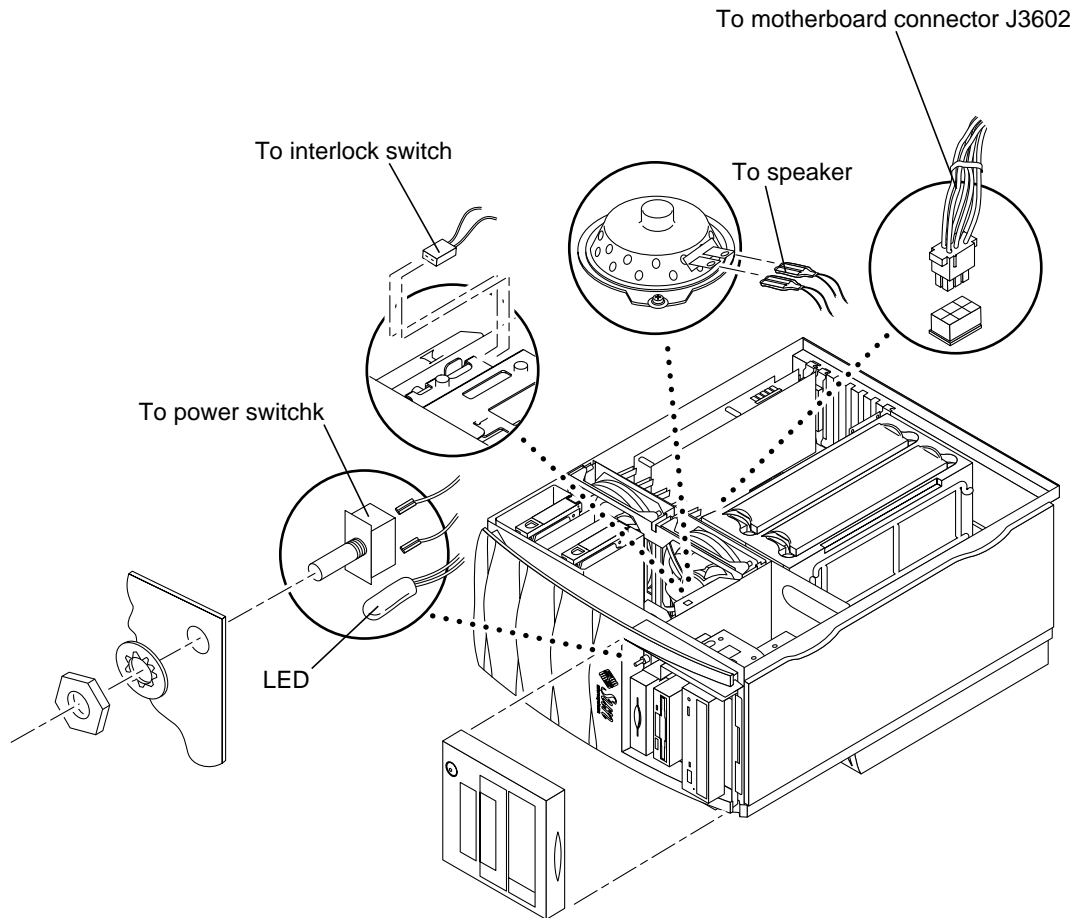

FIGURE 6-10 Removing and Replacing the Combined Cable Assembly
5. **Disconnect the combined cable assembly as follows (FIGURE 6-10):**
1. **Position the combined cable assembly in the chassis** (FIGURE 6-10).